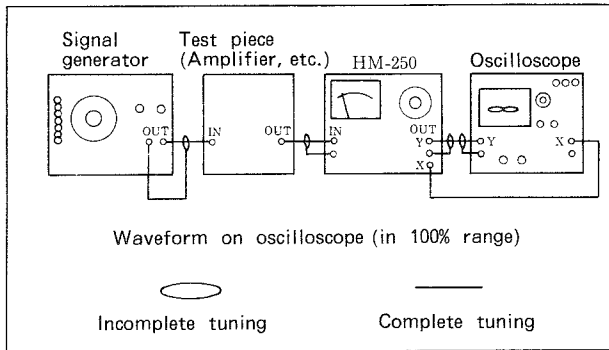

Fig. 2 Lissajous Waveform Monitoring
Frequency adjustment is facilitated by connecting the X ⑧ and Y ⑩ OUTPUT terminals of this meter to an oscilloscope as shown in Fig. 2 and observing Lissajous waveforms on the oscilloscope.